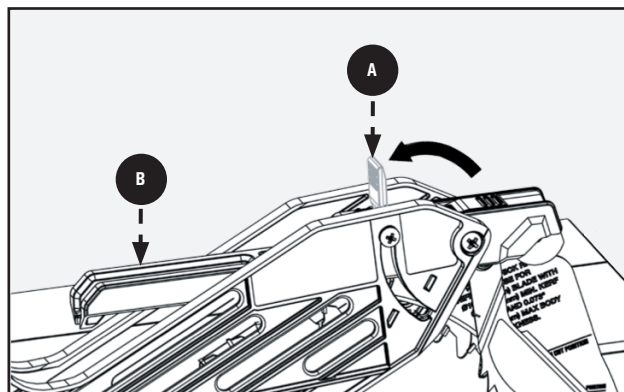

FIGURE 16
3. See Figure 16 (next page). While holding down on the front of the support arms **B** of the Guard press the Blade Guard Lock Tab **A** down until it snaps into the locked position. Check to make sure the Guard is locked onto the Riving Knife by pulling on the Guard. If the Guard is not locked, the Blade Guard Lock Tab **A** will flip up to the unlocked position.
See Figure 16.